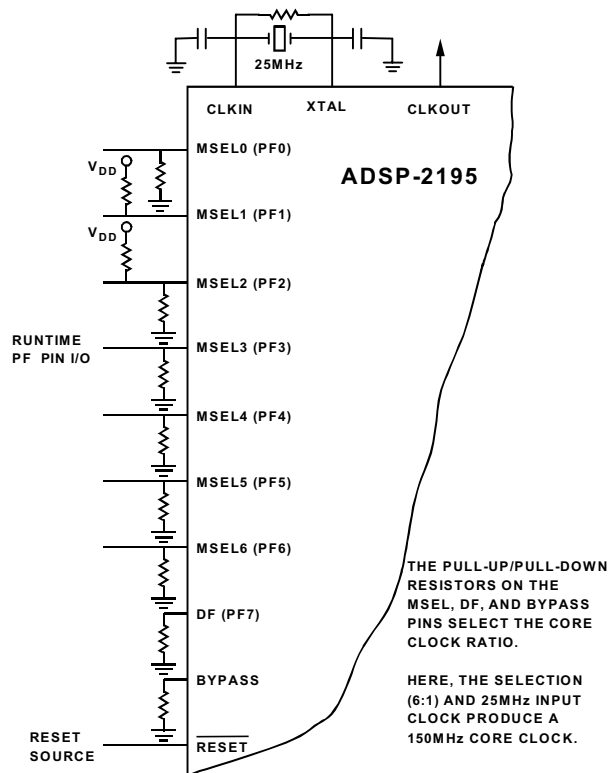

Figure 6. External Crystal Connections
The ADSP-2195 can be clocked by a crystal oscillator or a buffered, shaped clock derived from an external clock oscillator. If a crystal oscillator is used, the crystal should be connected across the CLKIN and XTAL pins, with two capacitors connected as shown in Figure 6. Capacitor values are dependent on crystal type and should be specified by the crystal manufacturer. A parallel-resonant, fundamental frequency, microprocessor-grade crystal should be used for this configuration.
The DSP provides a user-programmable  $1\times$  to  $32\times$  multiplication of the input clock, including some fractional values, to support 128 external to internal (DSP core) clock ratios. The MSEL6–0, BYPASS, and DF pins decide the PLL multiplication factor at reset. At runtime, the multiplication factor can be controlled in software. To support input clocks greater than 100 MHz, the PLL uses an additional input: the Divide Frequency (DF) pin. If the input clock is greater than 100 MHz, DF must be high. If the input clock is less than 100 MHz, DF must be low. The combination of pullup and pull-down resistors in Figure 6 set up a core clock ratio of 6:1, which produces a 150 MHz core clock from the 25 MHz input. For other clock multiplier settings, see the *ADSP-219x/2191 DSP Hardware Reference*.